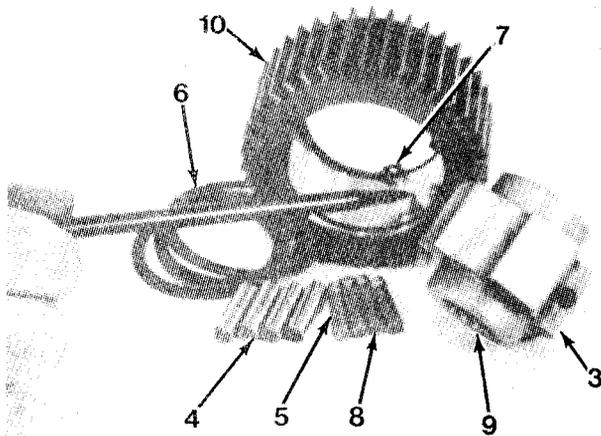

Figure 16-2
2. Remove brake cam (3), four rotor rollers (4), rotor springs (5), second roller retainer (6) and remaining retaining ring (7) from brake race (10, Figure 16-2).
3. Separate four rotor plungers (8) from four rotor springs (5).
4. Remove snap ring (9) from brake cam (3).
1. Install one retaining ring (7) and roller retainer (6) into brake race (10, Figure 16-2).